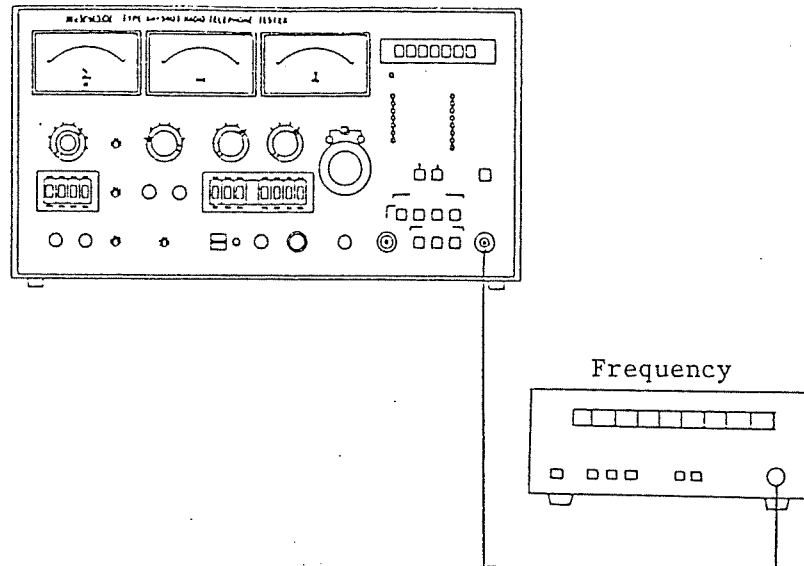

Fig. 3-1 Frequency accuracy test
- (1) Connect a frequency counter to the [RF INPUT/OUTPUT 50  $\Omega$  MAX. 25 W] connector as shown in Fig. 3-1.
- (2) Set the controls of this apparatus as follows: